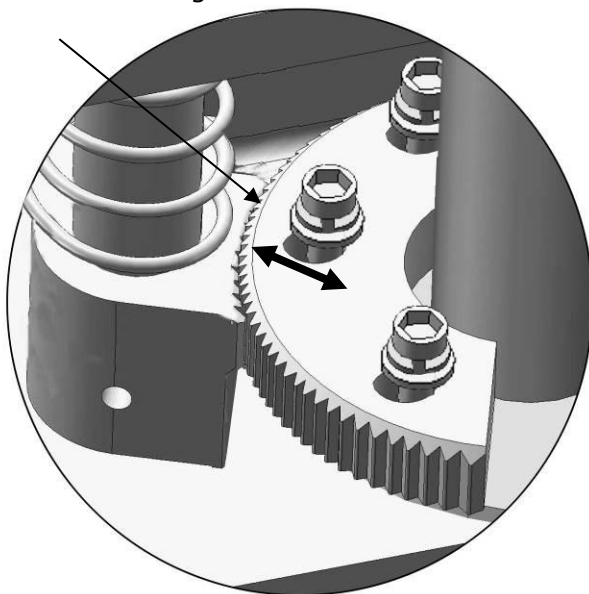

Fig. 25
3. Adjust the arm lock as direction of arrow (See Fig. 25)